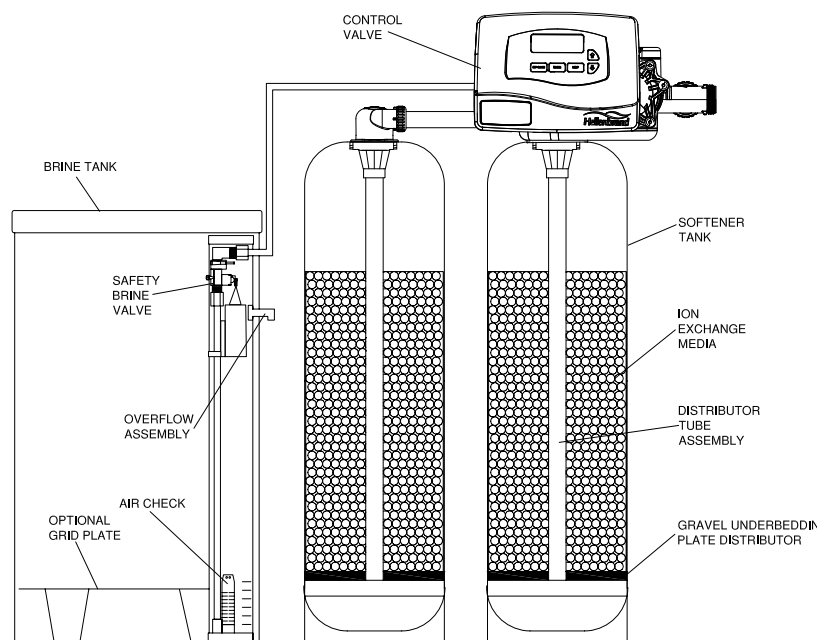

Figure 6b
8. Press the REGEN button until LED display says “REGENERANT DRAW DN”. Loosen the brine line from the elbow on control valve in the brine tank. Place finger over the end of the elbow to check for suction. If no suction, see trouble-shooting guide. (See #10, Page 11) If proper suction, reattach brine tube and allow it to draw water down to the bottom of the air check, (figure 6b, page 6).